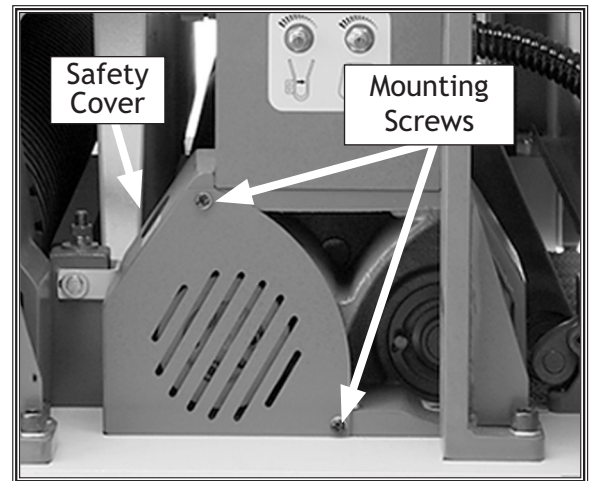

Figure 49. Safety cover and mounting screws.
3. Remove the screws and the safety cover for access to the upper pulley (Figure 49 and 50).